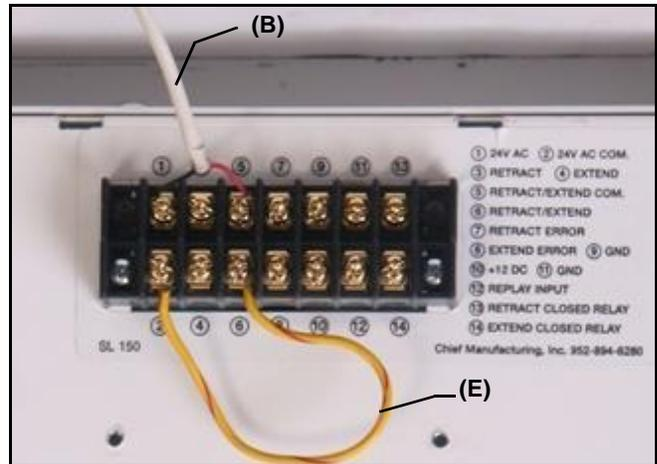

Figure 3
6. Place the jumper wire (E) on the contacts, and wire the push button assembly (B). (See Figure 3) Refer to Table 1: Wiring Table.